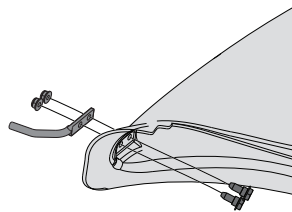

Figure 14
1. From the inside of the boot, put the two Hex Head screws (738-1225) through the holes at the bottom front of the boot. See Figure 14.
2. Put the mounting rod (747-06043) in place over the hex head screws. Make sure the tip of the rod is facing out from the boot. See Figure 14.
3. Begin threading the two flange lock nuts (712-04064) onto the hex head screws. See Figure 14.